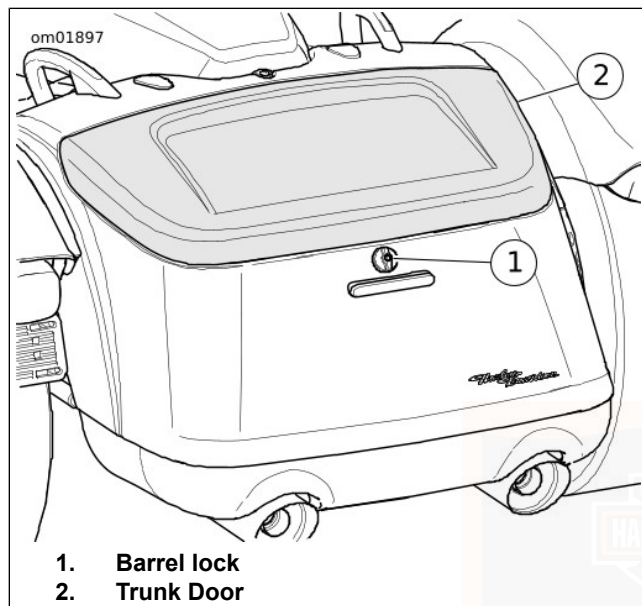

Figure 34. Trunk
2. See Figure 34. Turn the barrel lock clockwise to unlatch door. Open trunk door.